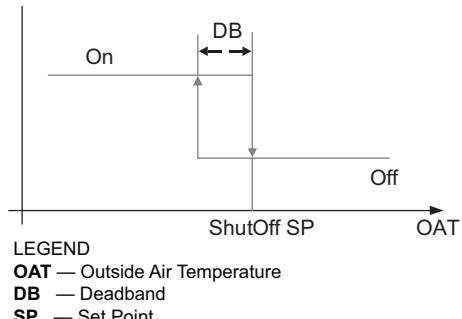

Fig. 62 — Hysteresis Settings
Hysteresis setting (DB) defaults to 2°F (−17°C). See Fig. 62.